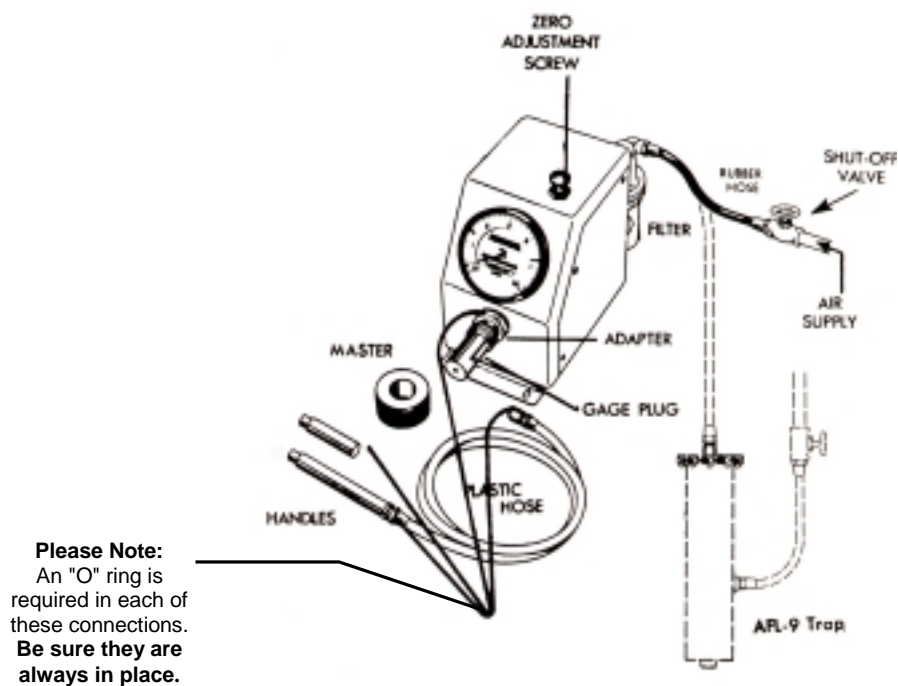

Figure 2 Major Components of the Dimensionair® System
3. Turn "Zero Adjustment" screw (Shown in Fig. 2) and bring the hand to zero setting.